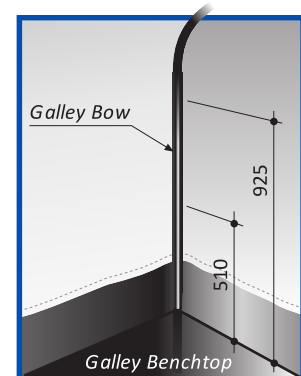

Fig. 1
- Measure 925mm up from the galley benchtop onto both legs of the galley bow. Stick some masking tape in the area, mark the inside of the legs and centre-punch the spot (Fig.1).
- Measure 510mm up from the galley benchtop onto both legs of the galley bow. Stick some masking tape in the area, mark the inside of the legs and centre-punch the spot (Fig. 1).